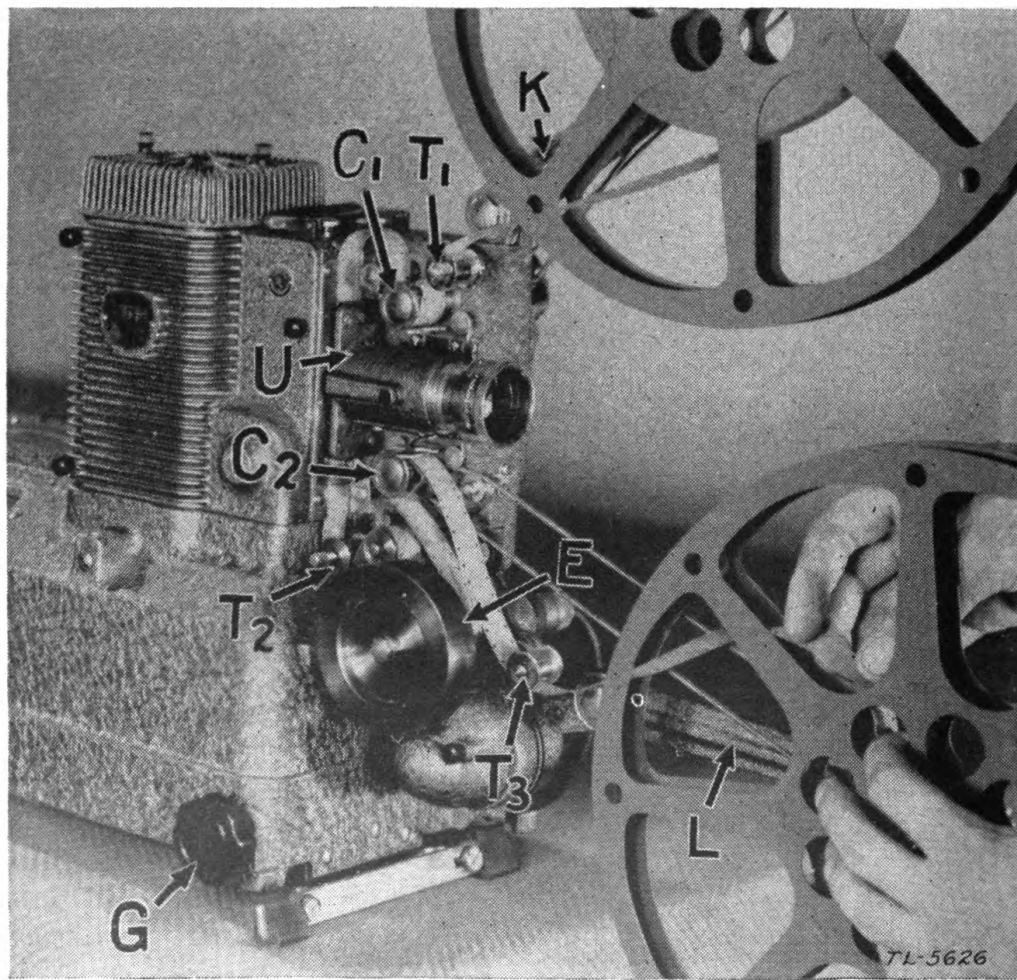

FIGURE 15.—Ampro YA projector with film threaded.
7. Threading film.—The method of threading film is the same for all projectors, with minor exceptions. Figures 15, 16, 17, and 18 show each projector completely threaded and each part labeled for easy identification. The following procedure is observed in threading each projector: